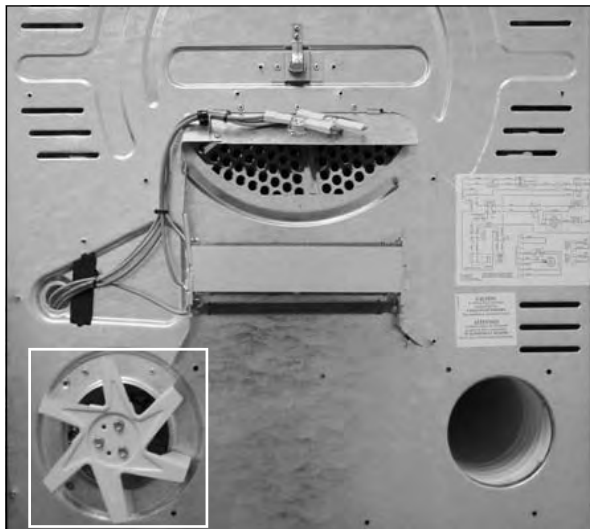
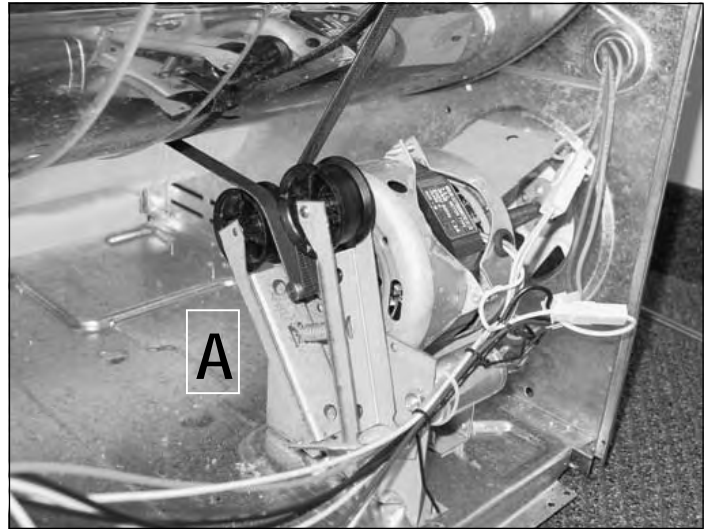

Fig. 9-1
Fig. 9-2
- To access the Main Motor (Fig 9-2), first remove the Rear Access Panels as described in Section 7, then remove the Right Side Panel as described in Section 8. To replace the Main Motor, remove the three (3) 8mm bolts securing the Blower Fan Blade to the Motor Shaft (Fig. 9-1), then disengage the Drum Belt from the Pulley Wheels (A) (Fig 9-2). The Motor is held to the Motor Mounts with six (6) 8mm Bolts, two (2) front and four (4) rear. With the bolts removed the Motor will slide out from the Motor Mount.